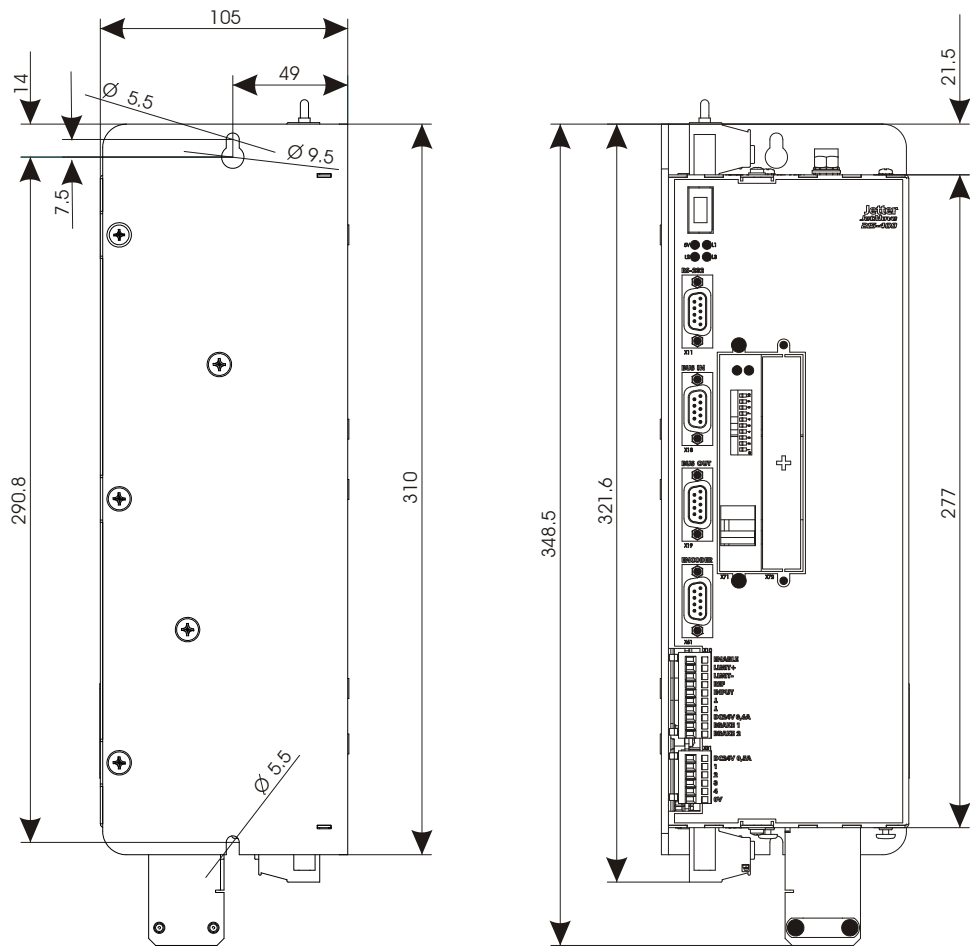

Fig. 4: Rear and front view of the JetMove 225-480 enclosure with mounting hole
-  Please mark on the panel two positions for the fastening screw threads of the JetMove 225-480 (see fig. 4, page 27).
Mounting position	Vertical (refer to fig. 4 on page 27). For sufficient air flow there has to be a clearance of 100 mm above and below the device.